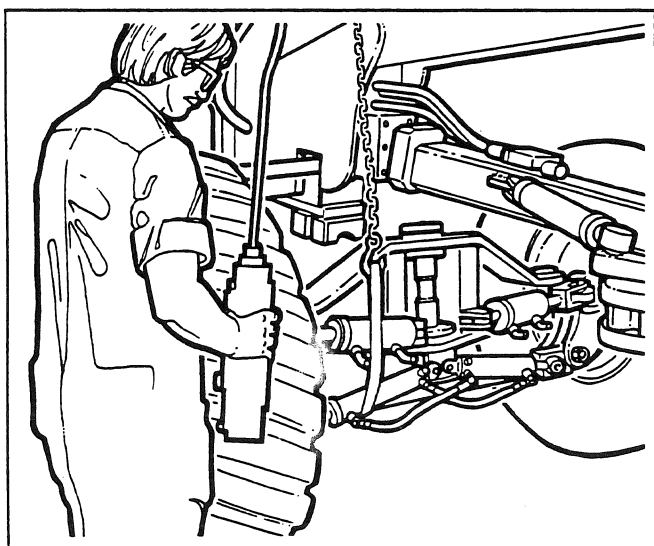

Fig. 5
2. Lubricate the pivot pin (6) with grease. Use a rubber or hide mallet to install the pivot pin into the bearings; taking care not to damage the seals.
3. Install the thrust cap (11), thrust washer (10) and three shims (9) onto the rear boss face of the axle frame. Retain the thrust cap with bolts (12) and lockwashers (13). Tighten the bolts in a diagonal sequence to the specified torque.
4. Install the thrust cap (1) and thrust washer (2) onto the front boss face of the axle frame. Do not install any shims. Retain the thrust cap with bolts (12) and lockwashers (13). Do not torque-tighten the bolts.
6. Roll the axle assembly under the grader front end. Attach a safe lifting device to the drag link (18). Use the lifting device to slowly turn the axle over (see Fig. 5). Take care that the axle does not turn over-center.